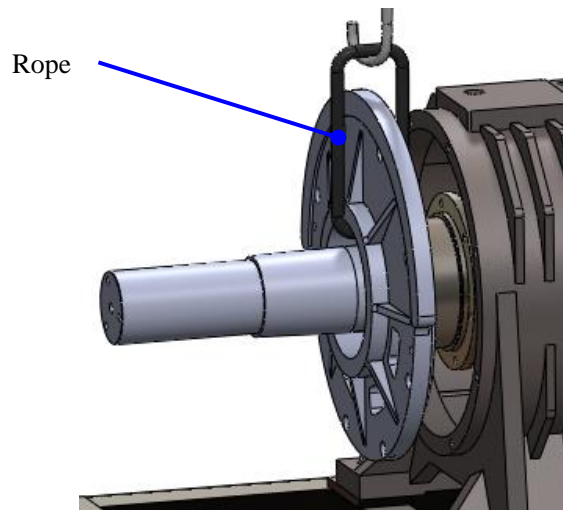

Figure 127: Hoist front cover
7. Hoist out the front cover with hoisting equipment, take off the double end studs M160x200 and the bolt M12x120 (2 pieces). See Figure 127.